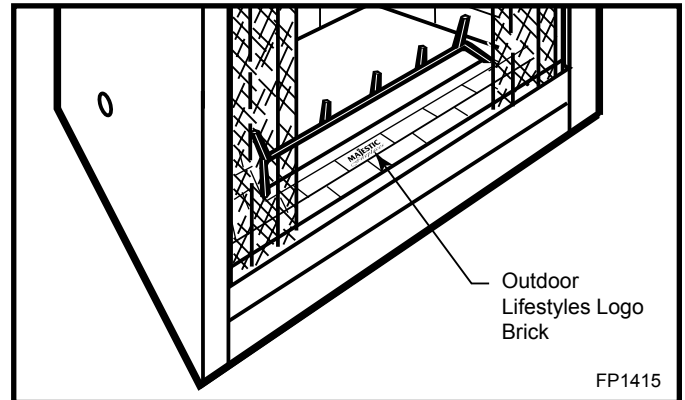

Fig. 6 Lift brick with logo on it to access valve.
2. Lift the brick with the Outdoor Lifestyles logo on it. (Fig. 6)